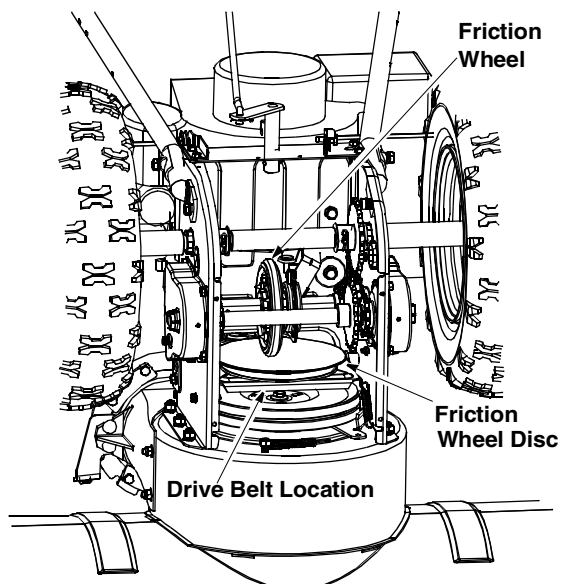

Figure 34
- With the traction drive clutch engaged, the friction wheel must contact the drive plate (Figure 34).
- Working from the underside of the frame, slip belt between the friction wheel and the friction wheel disc. See Figure 34. You may have to twist the belt flat in order to slide it through the clearance between the friction wheel and the friction wheel disc. Remove the belt.